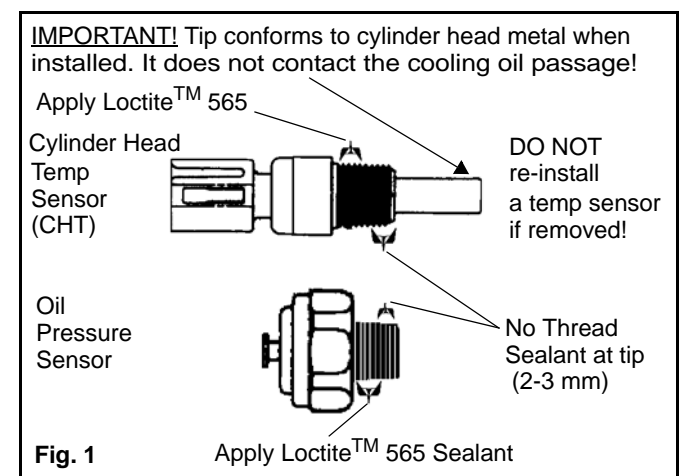

Fig. 1
8. Once testing is completed, clean threads with Loctite™ Primer N and apply sealant to threads indicated in Fig. 1 and install.